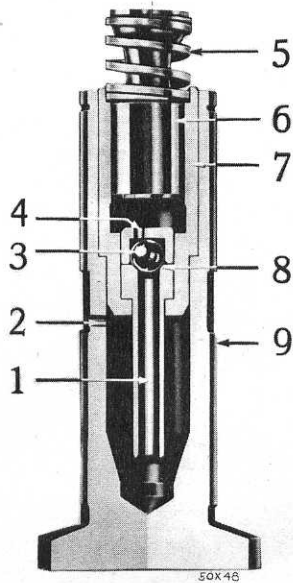

Fig. 57—Hydraulic Valve Tappet (Cross Sectional View)
42. OPERATION OF HYDRAULIC VALVE TAPPETS (FIGS. 57 AND 59)
In operation, the plunger (6, Fig. 57) is held constantly against the valve stem tip by the plunger return spring (5). The oil in the small
- (6) To test the ball check valve, suck on the oil inlet tube (1, Fig. 57) and seat the ball. If no leakage exists, the vacuum created will keep the tube attached to the tongue. If vacuum in tube disappears, the complete *tappet assembly* must be renewed as the ball check valve is leaking.
- (7) With plunger and cylinder clean and dry, place the plunger into the cylinder and squeeze them together between thumb and forefinger. The plunger should be springy and riding on a cushion of trapped air. If leakage is evident, clearance is too great and the complete *tappet assembly* should be renewed. Make certain the ball check valve is seated, while making this test.